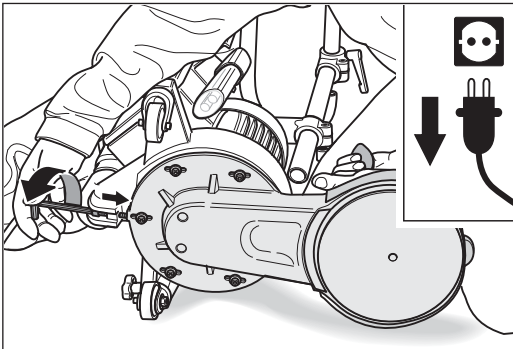

Fig. 59 Screw the belt-tensioning screw all the way in until it rests against the attachment.
- 8 Set the attachment down again use the proper Allen key to screw the belt-tensioning screw all the way forward until it rests against the attachment (Fig. 59).